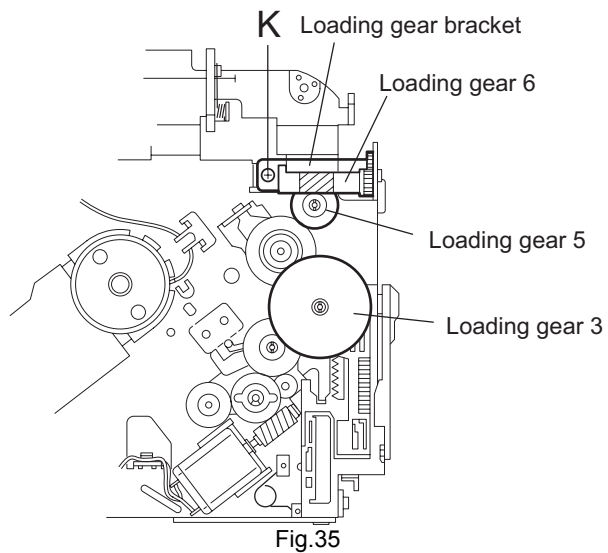

Fig.35
(See Figs.35 and 36)
- Pull out the loading gear 3. (See Fig.35.)
- (1) Pull out the feed gear.